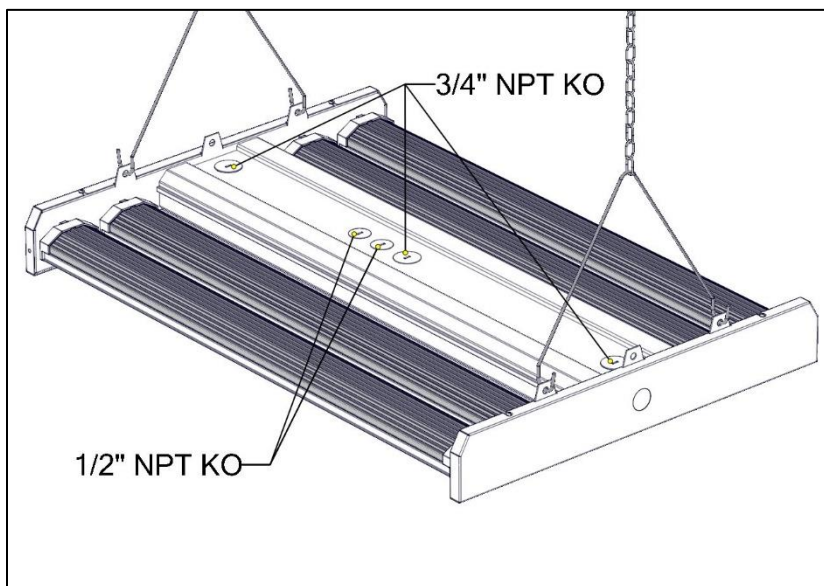

Figure 3
4. If pendant mounting the fixture, remove the two outer 3/4" trade size KOs on top of the fixture using a flat-head screwdriver. Take care not to damage any wires in the LED driver compartment. (Figure 3)
5. With a flat-head screwdriver, remove any one of the 1/2" trade size KOs located on top of the fixture for connecting the incoming supply wire. Take care not to damage any wires in the LED driver compartment. (Figure 3).